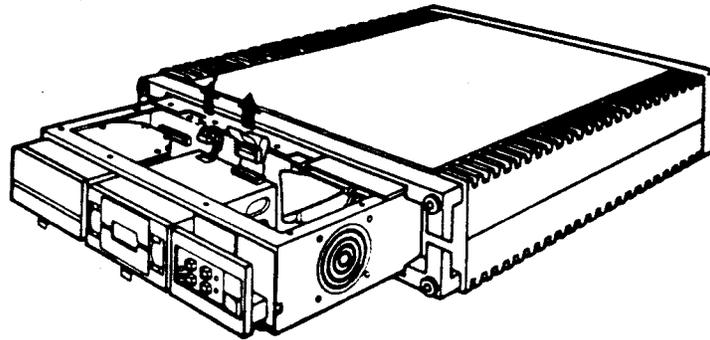

Figure 6-19: RX50 Cable Access
1. Slide the drive forward to access the cables at the rear of the drive, and disconnect the dc power cable and signal cable (Figure 6-19).